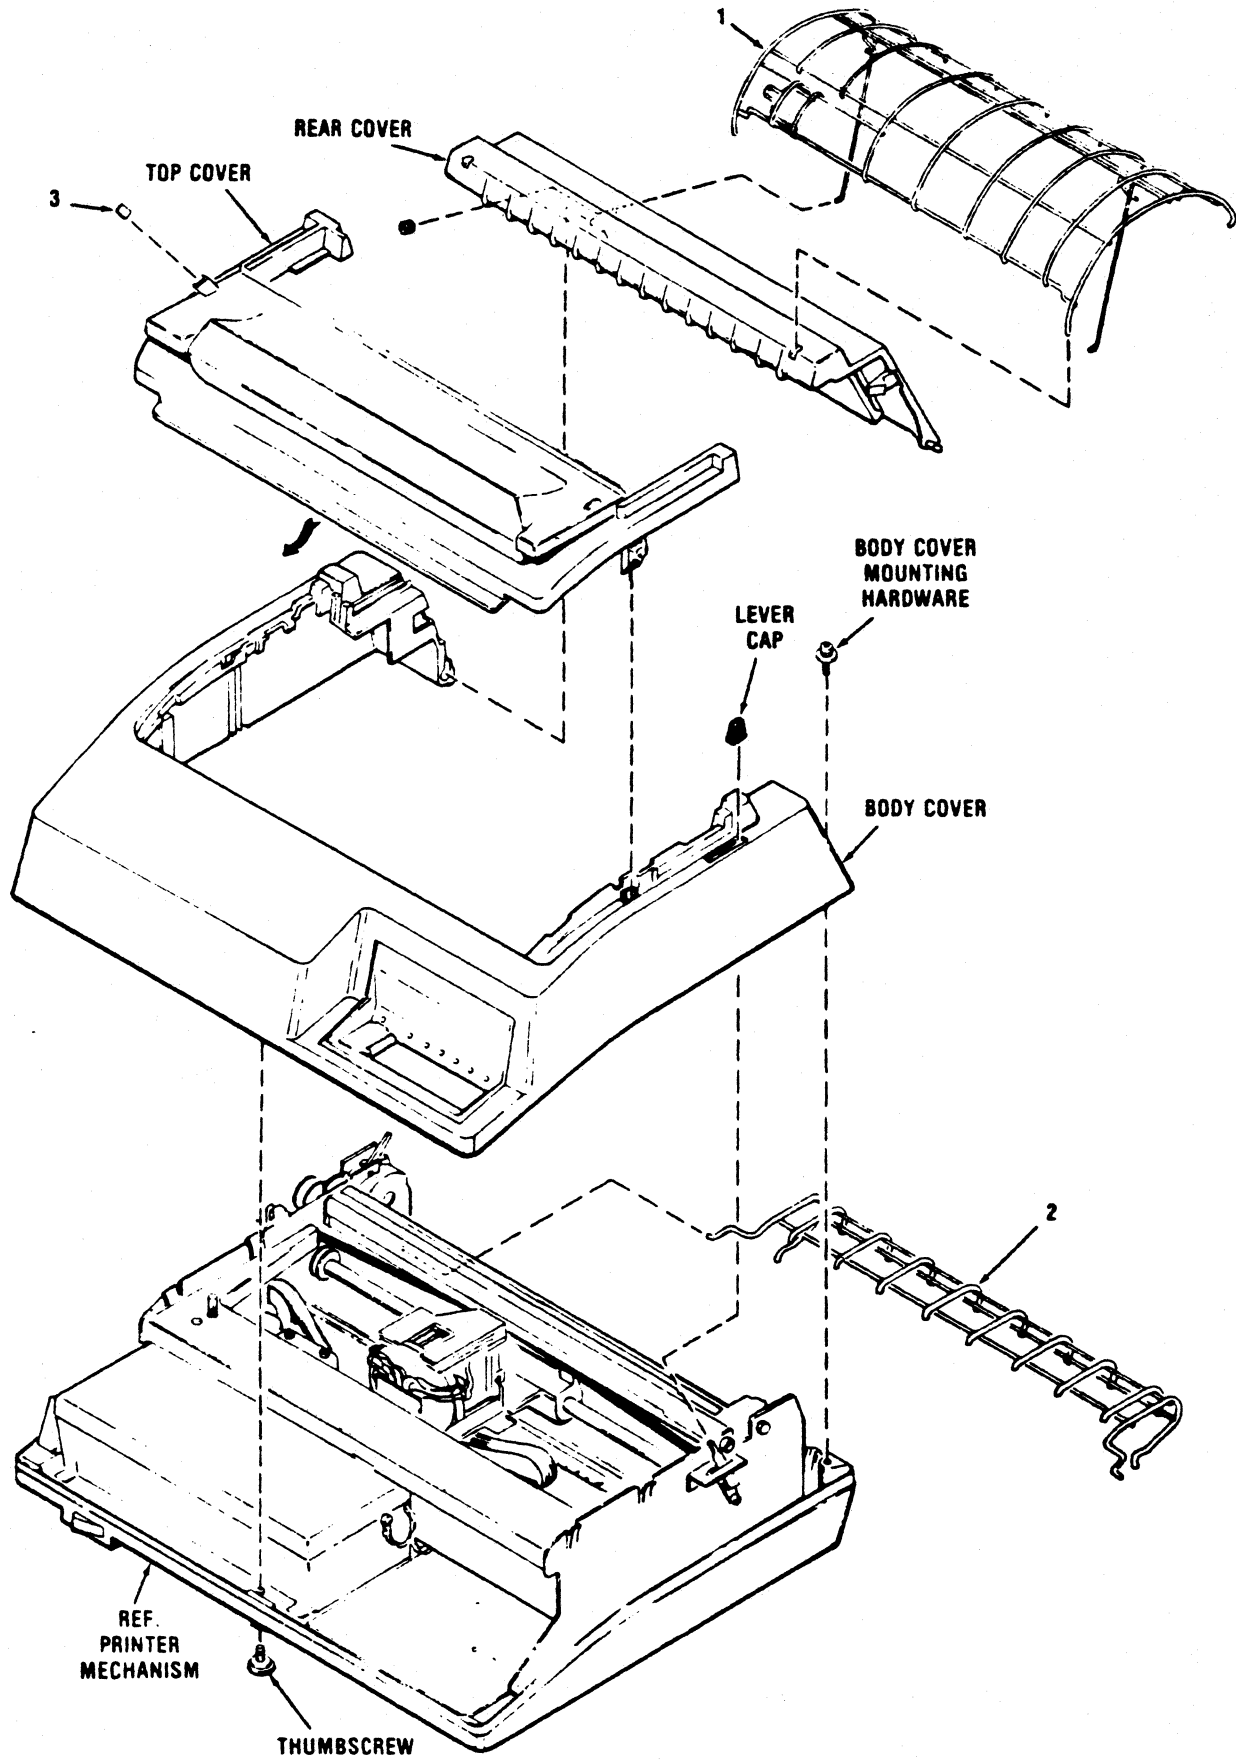

Figure 8-1 Installing the Paper Guide Racks
3. Locate the coaxial connector on the back of the printer as shown in Figure 8-1.
Refer to Figure 8-1 and follow the procedure outlined below to install the Paper Rack Inlet and the Paper Rack Outlet.